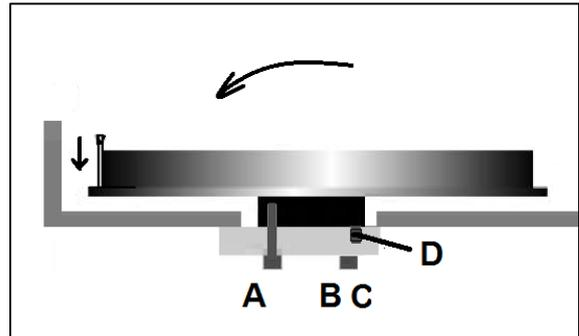

Figure 8-6: Blade Tracking Adjustment
- Use set screw (D) to adjust the tilt of the flywheel (Fig 8-6).